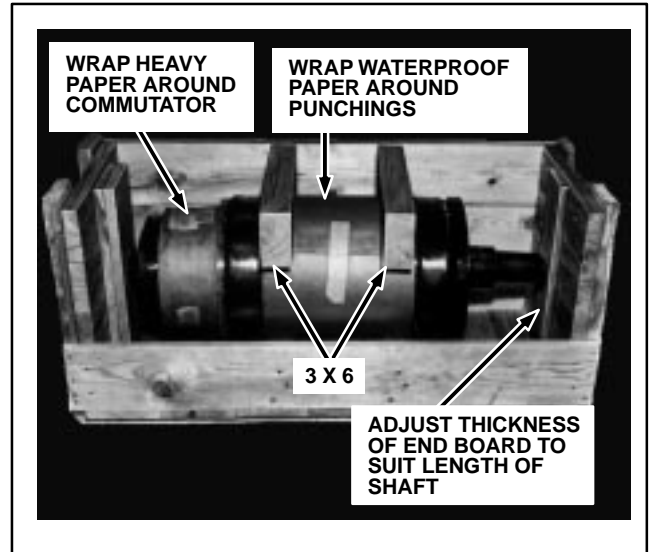

FIG. 46. ARMATURE PLACED IN SHIPPING BOX. E-3783.
2. Place it in the box. Support it on two saddle blocks under the punchings and secure it against lateral movement. See Fig. 46.
3. Place two saddle blocks over the core punchings, as shown in Fig. 46, and nail them to the side boards. If the box is the correct size, the top of the saddles will be flush with the top of the side boards. See Fig. 47.